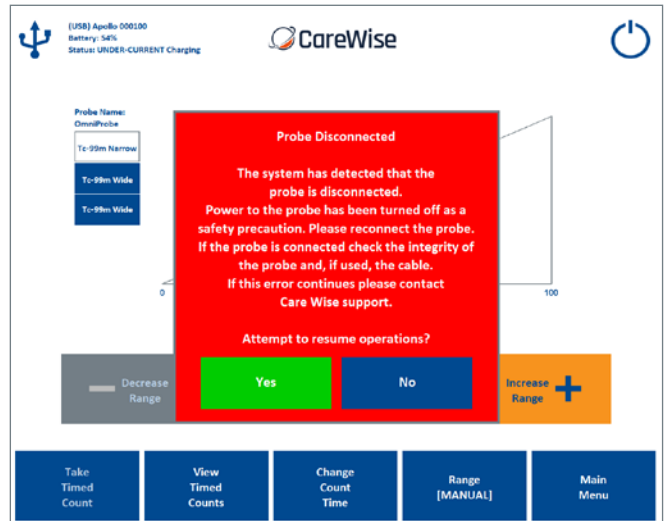

Figure 33 – Probe Disconnected
**Probe Disconnected** – [Figure 33] Warning: The OmniProbe has become disconnected from the Apollo Handset or probe cable. The Probe Disconnection Error will appear if the probe or cable is disconnected from the analyzer. Reconnect the probe and select 'Yes' to continue.